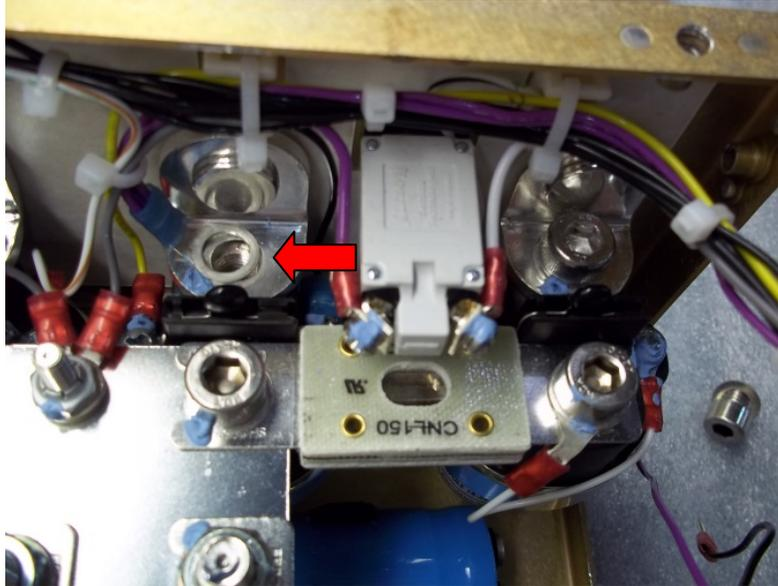

Figure 5-7: Remove Screw at Ring Terminal
9. Remove the screw holding the ring terminal to the generator contactor (Figure 5-7).